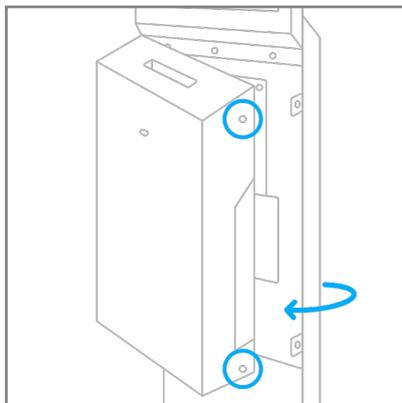

Figure 06.
Step 3: Loosen the two recessed screws on the right side of the Swift UV's main housing with the provided Phillips screwdriver and rotate the main housing open (Figure 06.).